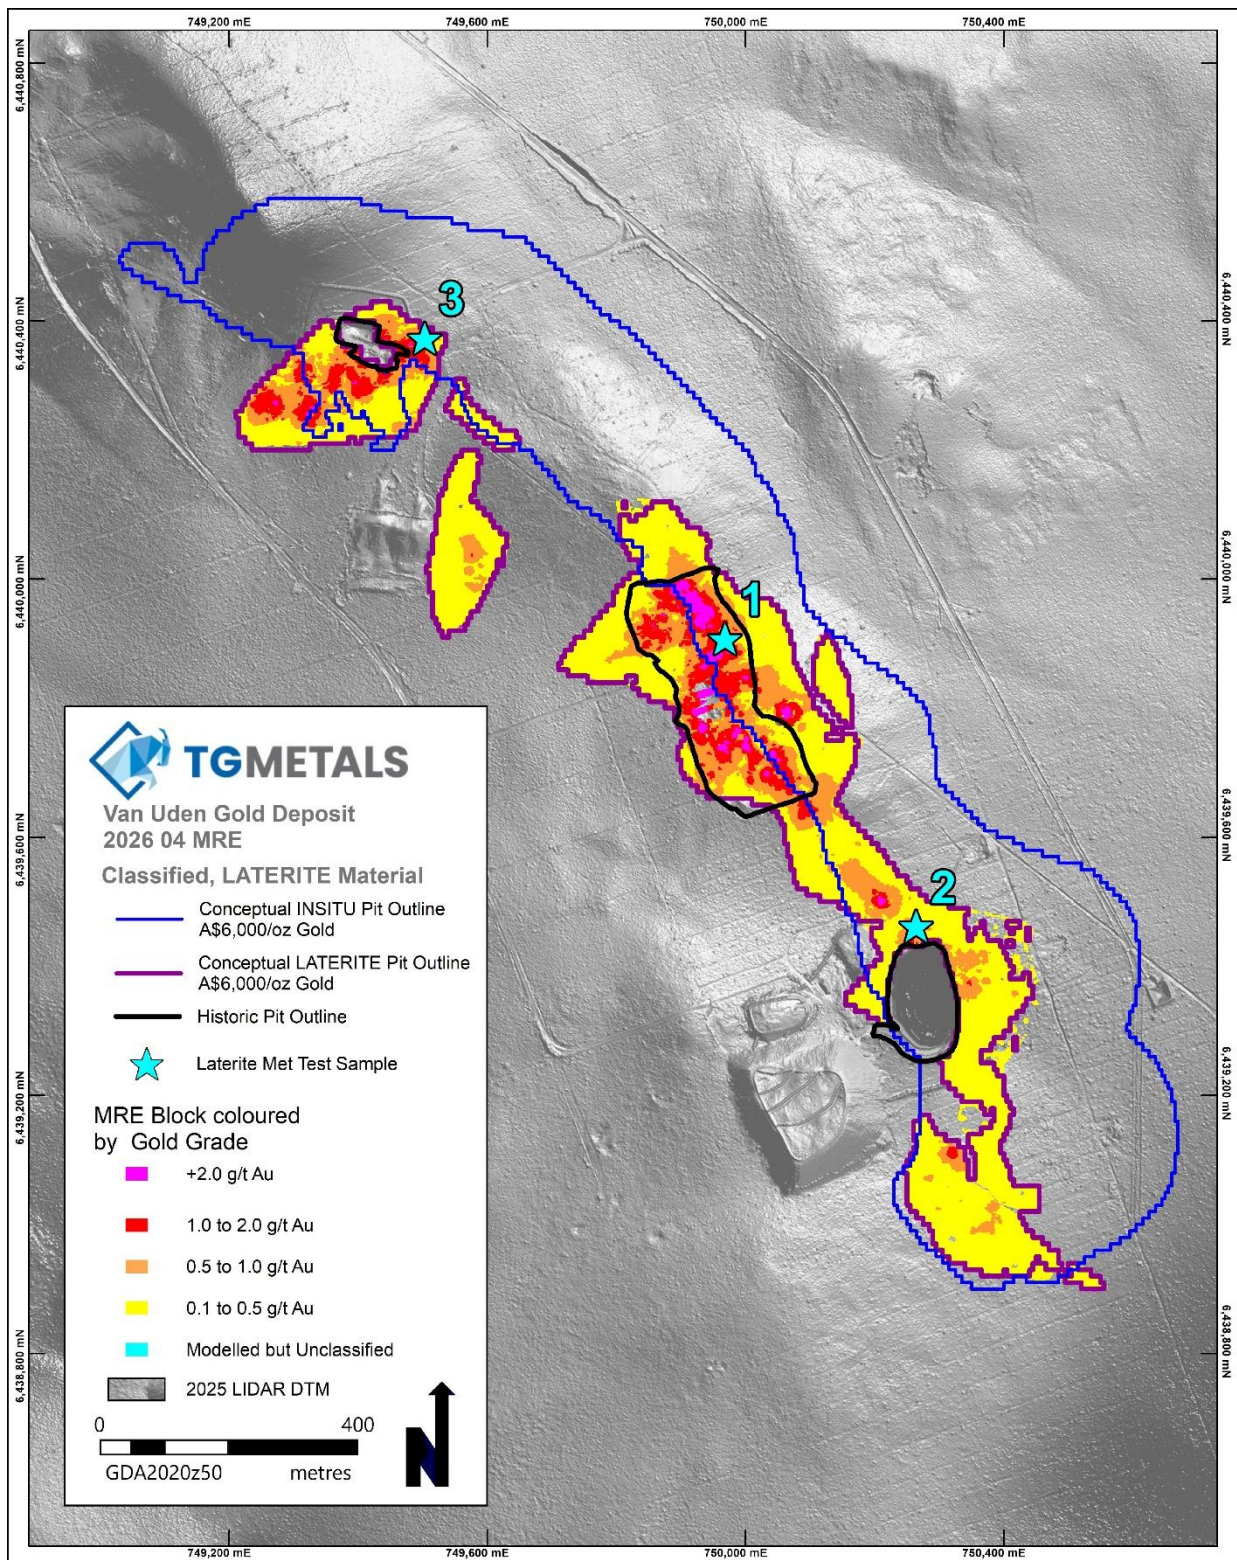

Figure 5 – Location plan of the three Laterite samples and Laterite resource.
A total of three (3) composites were generated utilising samples taken from historical mine workings which have exposed Laterite. **Figure 5** shows the location of the samples and **Table 3** lists the location coordinates.